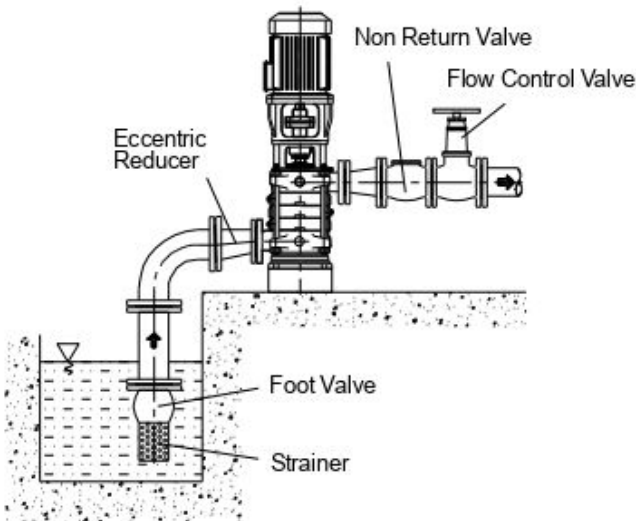

Fig. 4a. Suction Lift
- In order to keep the pipe friction losses as low as possible it is essential to avoid any sharp bends and abrupt changes of direction or cross-section and the suction pipe should be kept as short as possible. If it is necessary to change the cross-section of a piping laid almost horizontal, an eccentric reducer, with top horizontal, should be used (**Fig. 4a**).